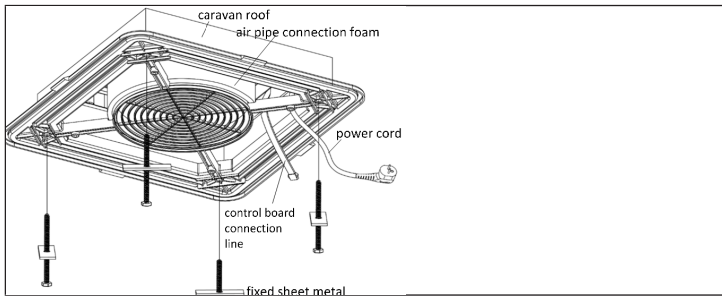
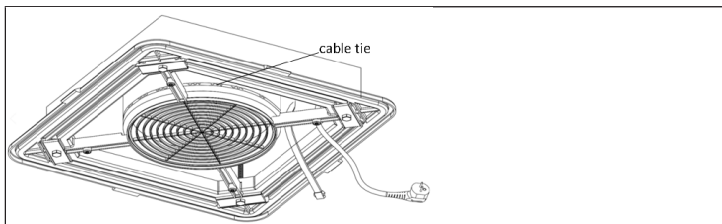
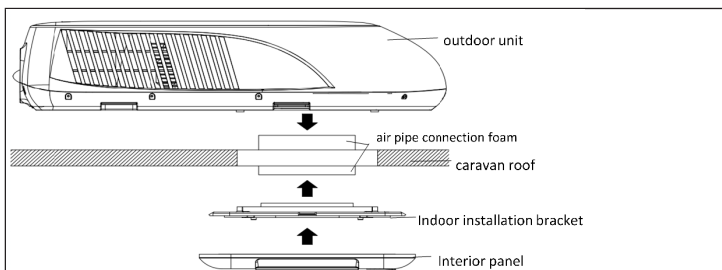

Figure 11
Figure 12
Figure 13
2. Indoor installation bracket (Fig. 11, Fig. 12, Fig. 13)